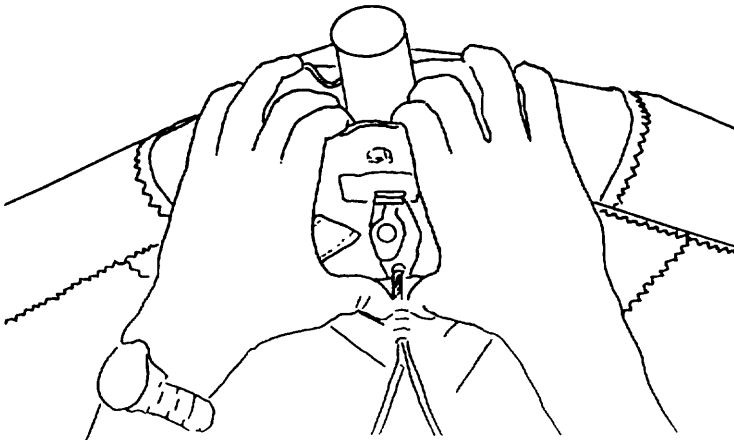

Fig 56
2) Work your way along the keel back to the nose, and remove the rubber safety from the bottom nosebolt. Dismount the bottom nose wires by placing your thumbs against the tang handle and pressing upwards while pulling down firmly on top of the noseplate. (Fig 56)